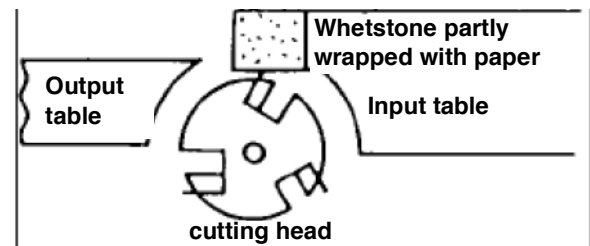

Fig. 20: Sharpening the knives
Step 3: To protect the input table from scratches, partially cover the grindstone with paper (Fig. 20).